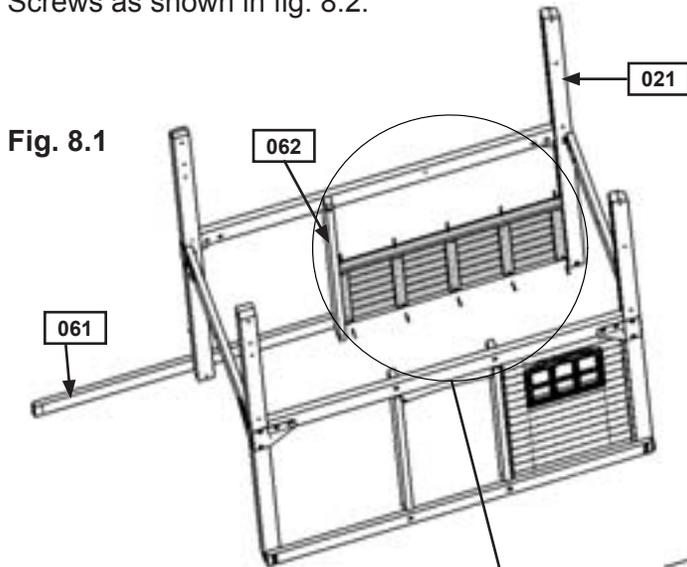

Fig. 8.1
A: Place (080) Back Half Panel between (021) Post Long and (062) Post Lower on opposite side from Door Wall Assembly, making sure panel is flush to outside face of posts. (fig. 8.1 and 8.2). The distance between the top of the panel and the bottom of the post should be 25”.